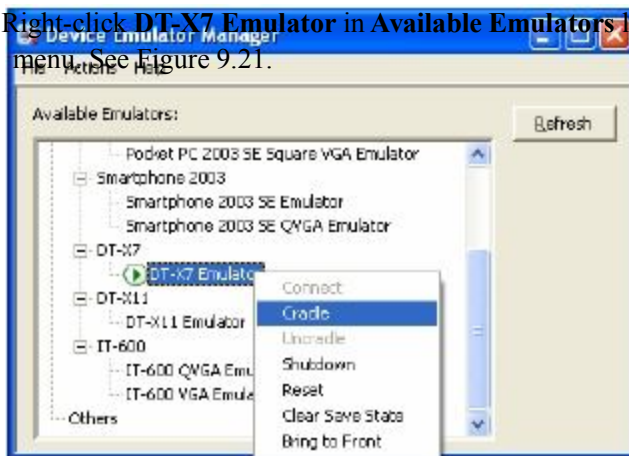

Figure 9.21
3. Right-click **DT-X7 Emulator** in **Available Emulators** list and then select **Cradle** in the popup menu. See Figure 9.21.